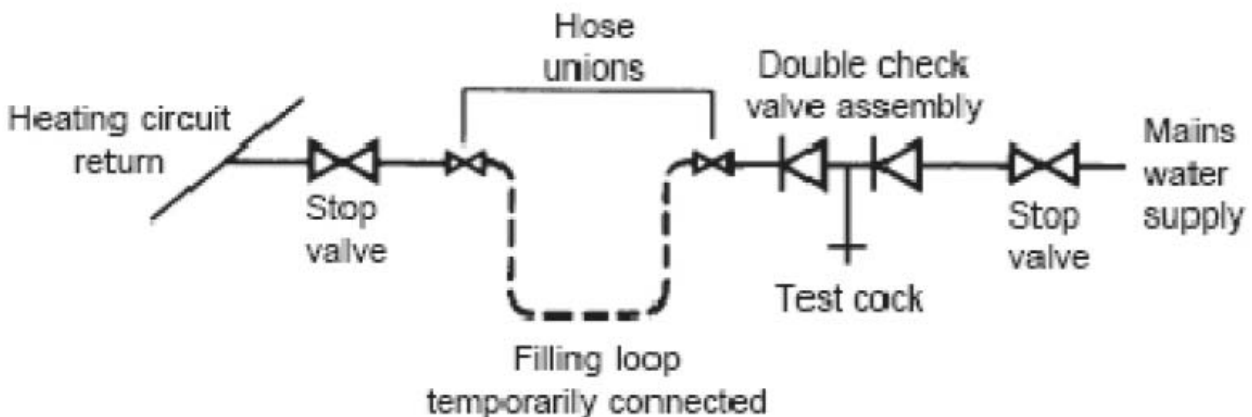

Fig. 5
- The appliance is equipped with an internal by-pass that operates with system heads (H) greater than 3 m. The maximum flow through the by-pass is about 300 l/h. If thermostatic radiator valves are to be installed, at least one radiator should be without a thermostatic valve (usually the bathroom radiator).
- A sealed system must only be filled by a competent person using one of the approved methods shown in fig. 5. The system design should incorporate the connections appropriate to one of these methods.